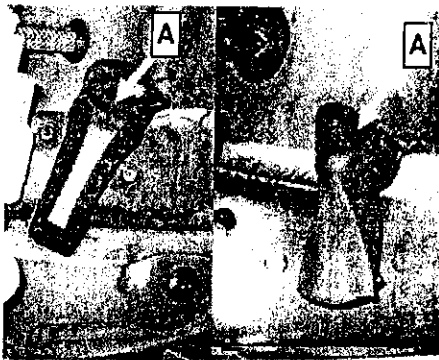

Figure 2 Different versions
- a. If one of the grommets (A) is installed, carry out **work procedure** (figure 2).
- b. If **no** grommets (A) are installed, **end measure**.
3. Remove grommet (A) (figure 2).